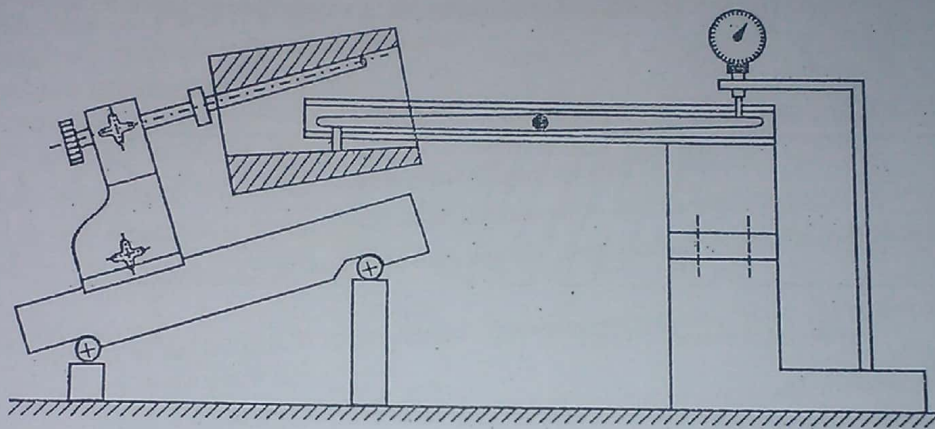

Fig. 4.100. Set-up for measuring a taper hole on the sine table using internal adaptor.
C. *Measuring a taper hole on the sine table using internal adaptor* : Fig. 4.100 shows the set-up for measuring a taper hole on the sine table using internal adaptor. The internal adaptor used consists of a hollow cylinder with suitable external diameter and a lever, hinged in the cylinder, whose magnification ratio is 1. The taper ring as placed on one of the centres and adapter is made to contact the bottom surface of the taper hole. The sine table is adjusted by slip gauges until the lower surface of the taper hole is set parallel to the surface plate. This can be ensured when the reading of the dial gauge, in contact with the adaptor, remains constant during the axial movement of the adaptor inside the taper hole. In this position, the angle made by the sine table is equal to the taper angle, angle of the component being tested.